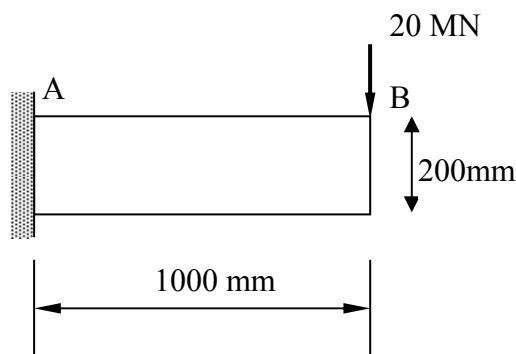

Figure 10(a)
- (c) Derive the stiffness matrix for the element shown in Figure 10(b) in terms of applied axial loads F_1, F_2 , displacements u_1, u_2 , axial rigidity EA and initial length L .